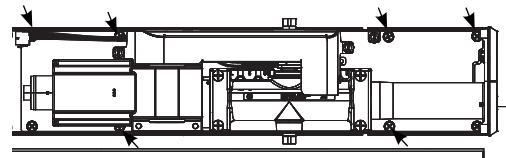

Figure 10 6 LAP Mounting Screws
1. Remove six (6) screws securing LAP to backplate. (Figure 10)
2. Using six (6) 1/4-20 x 1/2" Phillips head screws, secure LAP to backplate. (Figure 10)